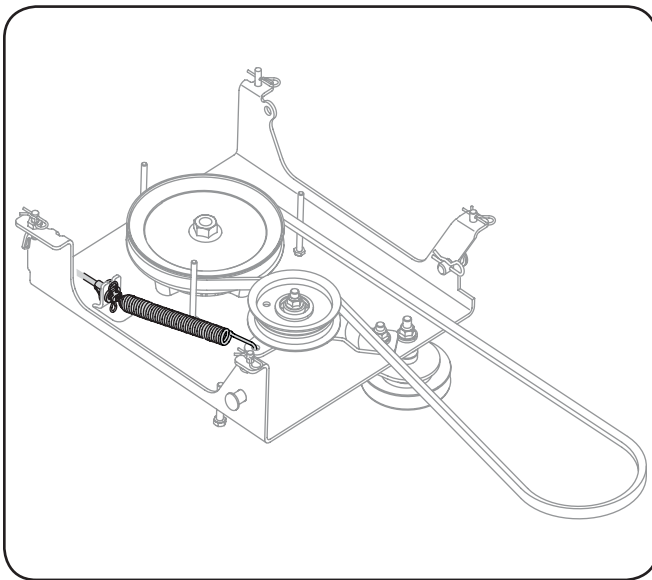

Figure 3-4
3. Refer to Fig. 3-4 for correct position.